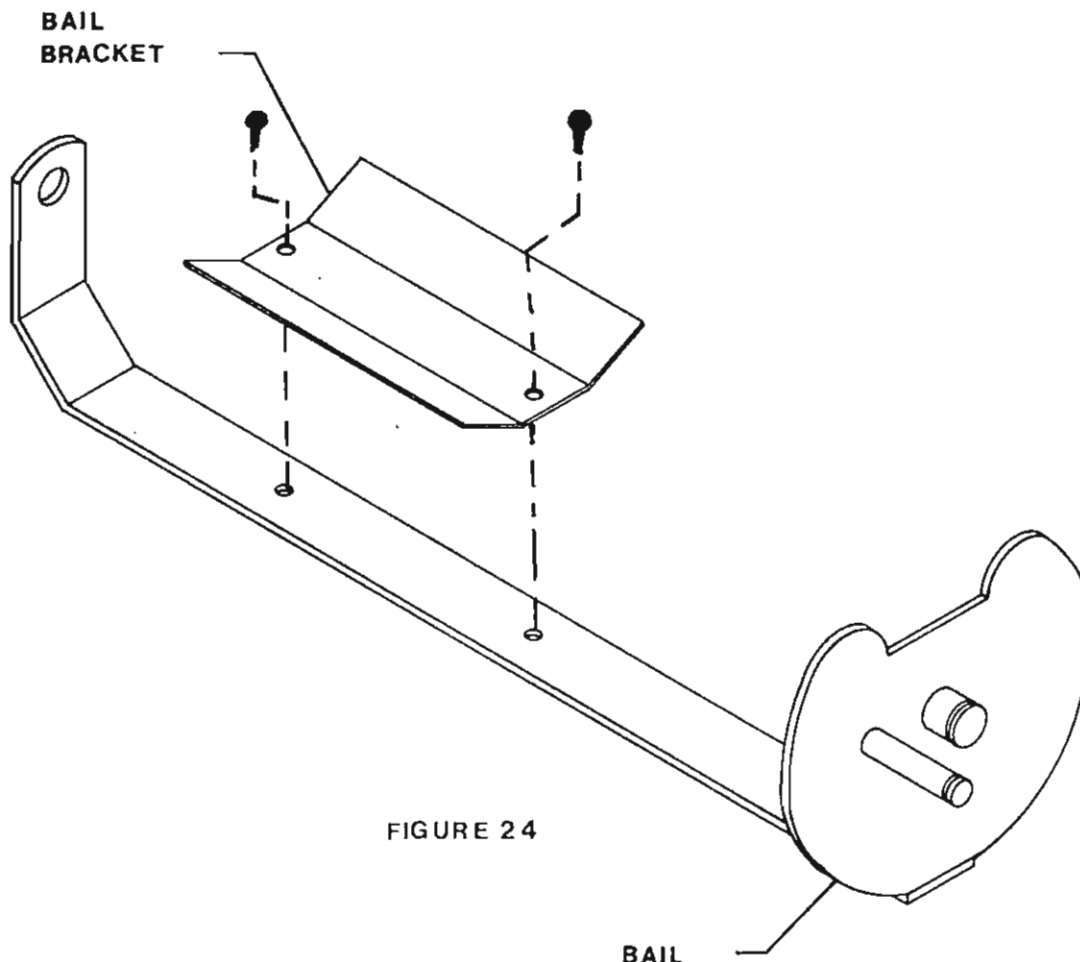

FIGURE 24
4. Install a bail bracket P/N 384325 on each bail (one per column). **FIG. 24**